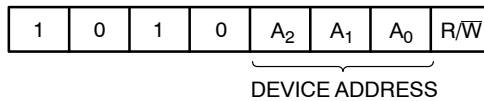

Figure 3. Slave Address Bits
The Master addresses a Slave by creating a START condition and then broadcasting an 8-bit Slave address. For the CAT24C64, the first four bits of the Slave address are set to 1010 (Ah); the next three bits, A₂, A₁ and A₀, must match the logic state of the similarly named input pins. The R/W bit tells the Slave whether the Master intends to read (1) or write (0) data (Figure 3).